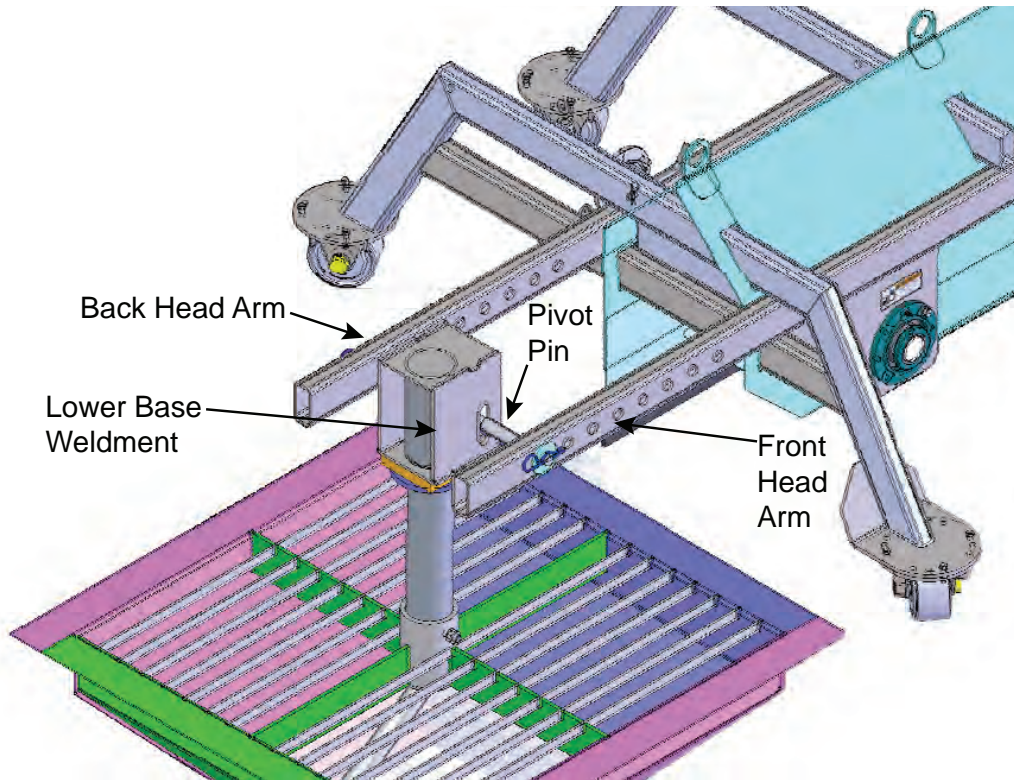

Figure 4-12: Head Section Installation On A Sweep Without A Collector Ring
1. Install the Pivot Pin in one of the hole locations on the Front Head Section Arm. See Figures 4-12 and 4-13. In this case, the drawings on these pages show it is in the first hole from the end of the arm. The Pivot Pin will go through Head Section Arm and through the Lower Mount Weldment, out the other side of the Lower Mount Weldment and through the Back Head Section Arm. The Pivot Pin is then secured on each end with a washer and cotter pin. See Figures 4-12 and 4-13.